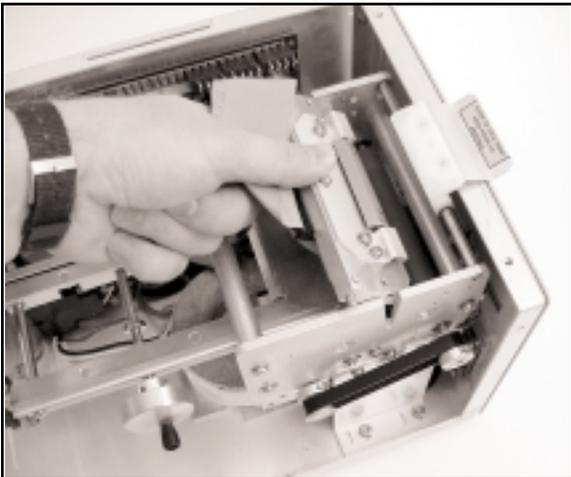

Figure 9b - Print Head removal
4. Lift up on the head mounting block/thermal head to remove. (see **figure 9b**)
9. Lift up on the head mounting block/thermal head to remove it (see **figure 9b**). Remove the ribbon connector from print head and then remove print head from mounting block by removing two unmarked screws.
2. Lift up the head mounting block/thermal head to remove it. (see **figure 9b**)